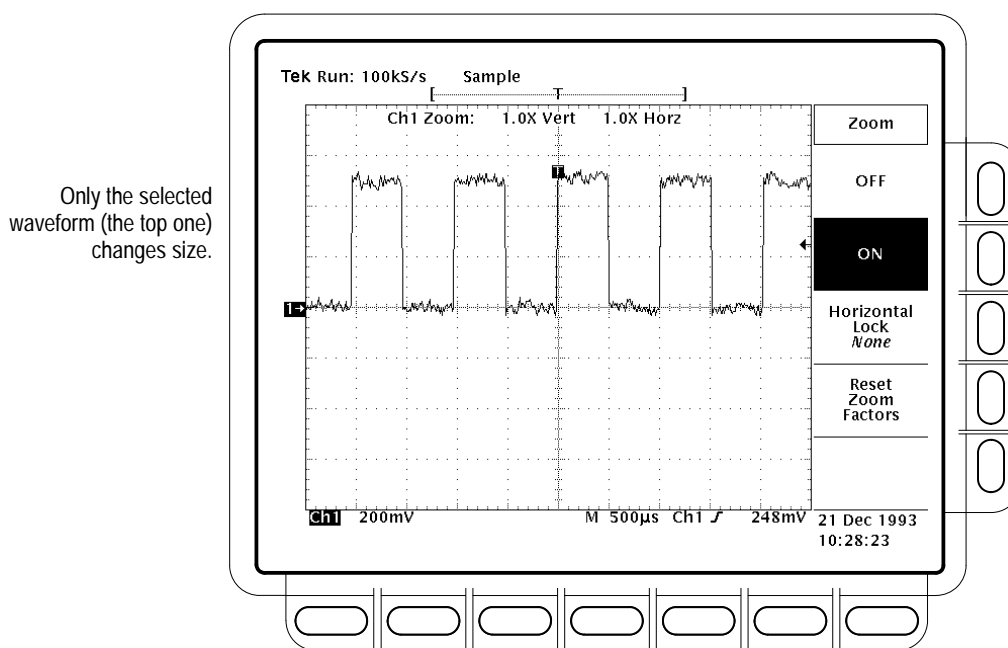

Figure 3–23: Zoom Mode with Horizontal Lock Set to None
The Zoom readout appears at the top of the display when zoom is on. (See Figure 3–23 on page 3–39.) The TDS 700A models do not display the Zoom readout when in dual-window (preview) mode.
*None* — only the waveform currently selected can be magnified and positioned horizontally (Figure 3–23).